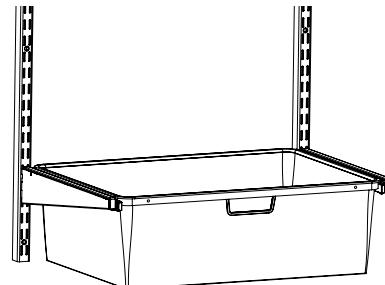

Figure 4
STEP 6: Place wire mesh basket (sold separately) into the surround assembly (**Figure 4**).